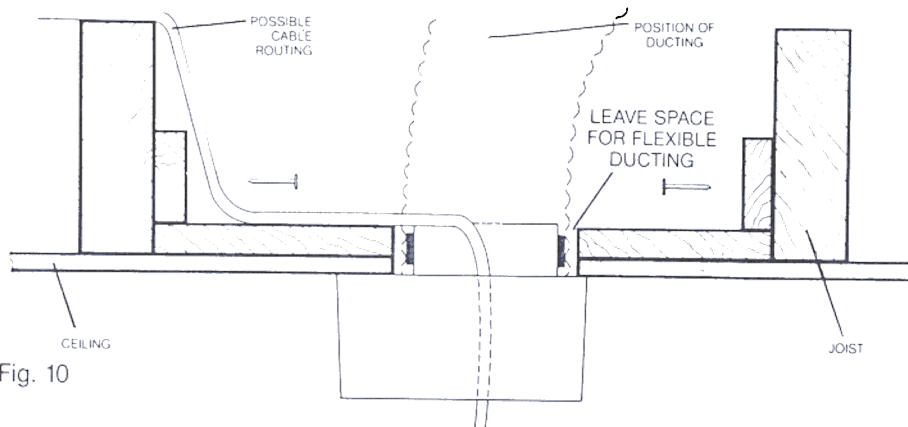

Fig. 10
7.1 Make a support to fit between the joists as shown (see Fig. 10). Mark the positions and sizes of the holes for the exhaust and cable entry and the hole centres for fixing the backplate using the template provided, which must be broken out along the perforations of the carton insert.